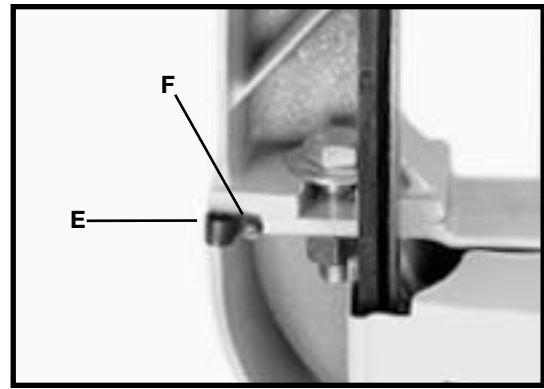

Fig. 15
6. Remove the screw (F) and cable clamp (E) Fig. 15 from the lower arm of the band saw.